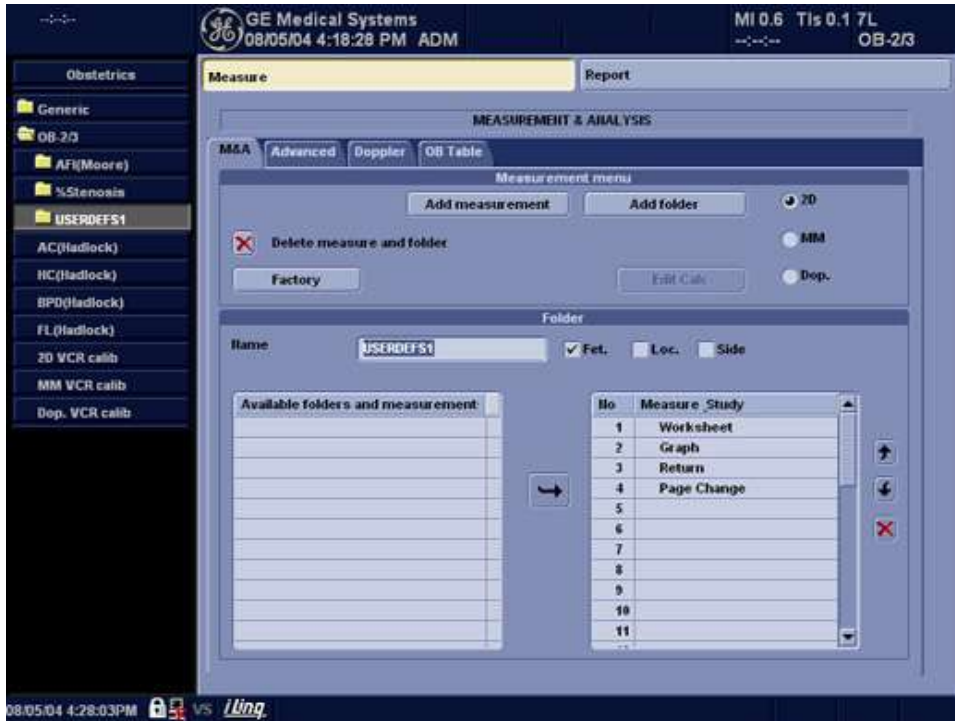

Figure 7-21. Measurement & Analysis: Add folder
- If you select Blank, the system adds a folder with a name such as USERDEFS1. It is listed in the Selection menu. See Figure 7-21.